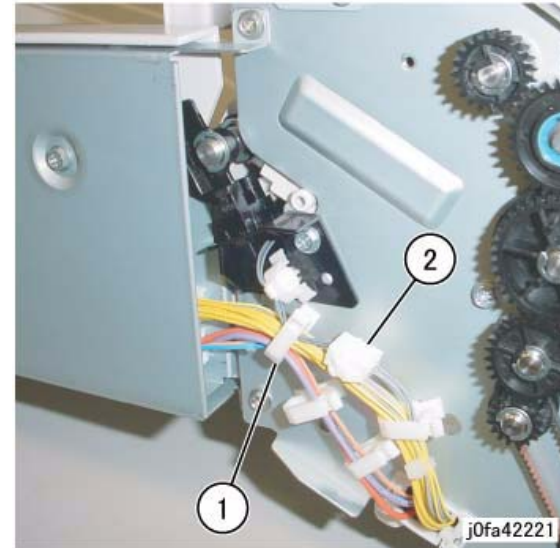

Figure 1 Disconnecting Connector
4. Disconnect the Connector (Figure 1):